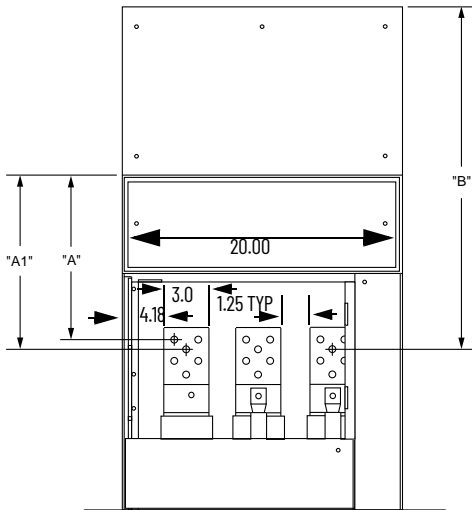

FIGURE 3
(1) Depending on wire size and wires per phase, pullbox is required to meet wire bending radius as specified by NEC/UL/C-UL.
(2) See page 74 for figures.
(3) When cable size selected limits the user to two single lugs per phase, Dimension A is measured from center set of holes in lug pad. See Figure 3 on page 74.
(1) See page 74 for figures.
(2) When cable size selected limits the user to two single lugs per phase, Dimension A is measured from center set of holes in lug pad. See Figure 3 on page 74.